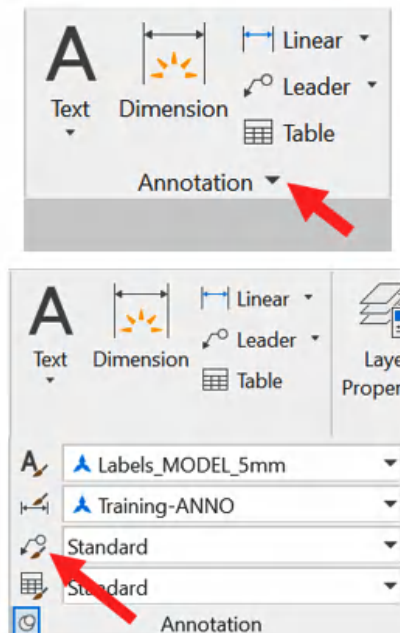

Figure 7.22: Expanding the Annotation panel on the Home tab and then clicking on the Multileader Style icon
1. To create new multileader styles, you need to access the **Multileader Style** dialog box. You can do this in two ways. The first is from the **Home** tab/**Annotation** panel, as shown in *Figure 7.22*.